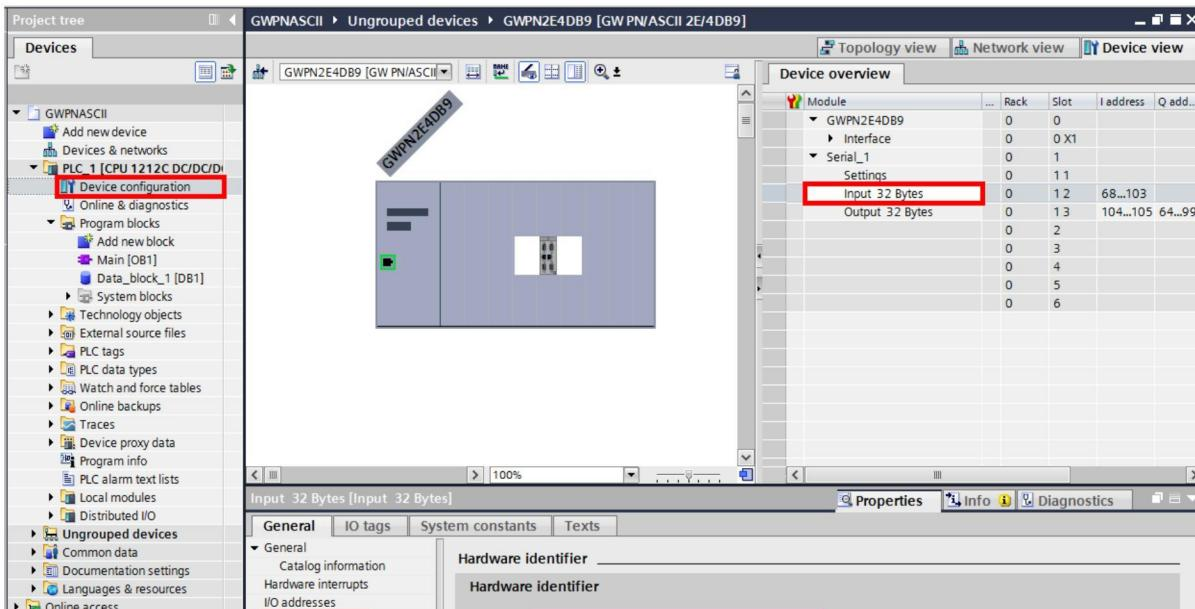

Figure 29 Hardware identifier
13. Add a DPWR_DAT instruction. The “LADDR” field is the hardware identifier of the Serial Output block, similar to the DPRD_DAT instruction (see Figure 29). The “RECORD” field is the entire output buffer from the data block.